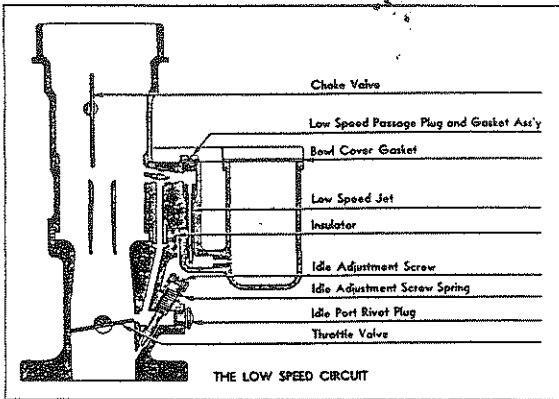

Fig. 1
- B. Group all low speed circuit parts. (Fig. 1.)